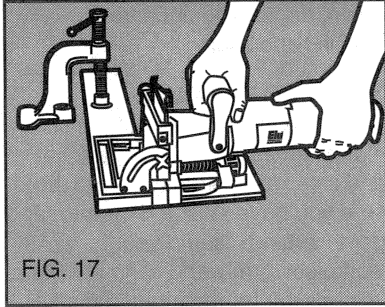

FIG. 17
- D. Clamp the workpiece and position the tool so that the center indicator mark lines up with the first layout mark. (See Figure 17). Turn on the tool and make the plunge cut. Retract the tool and release the trigger to turn the tool off. Repeat for each layout mark.